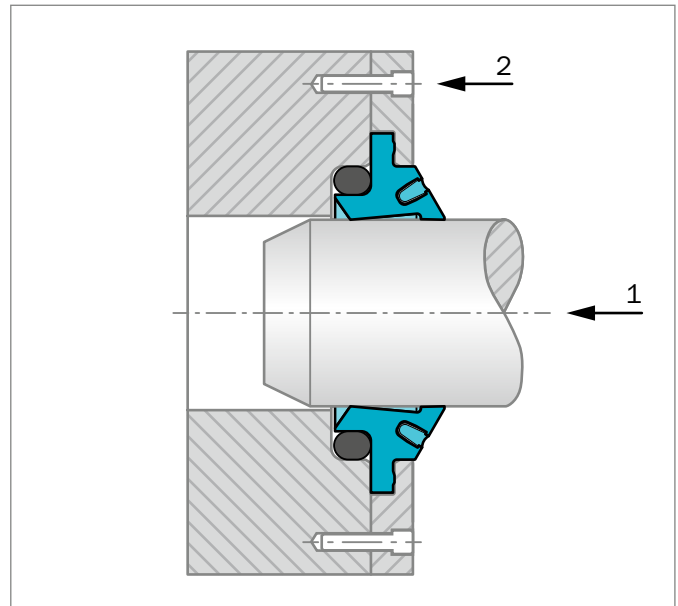

Figure 173: Installation and calibration of the Turcon® Excluder® S by the rod or a calibration mandrel
- Insert the rod - check whether rod has the recommended lead-in chamfer; if not, use a calibration mandrel - see Figure 173 **point 1**
- Tighten the cover - see Figure 173 **point 2**